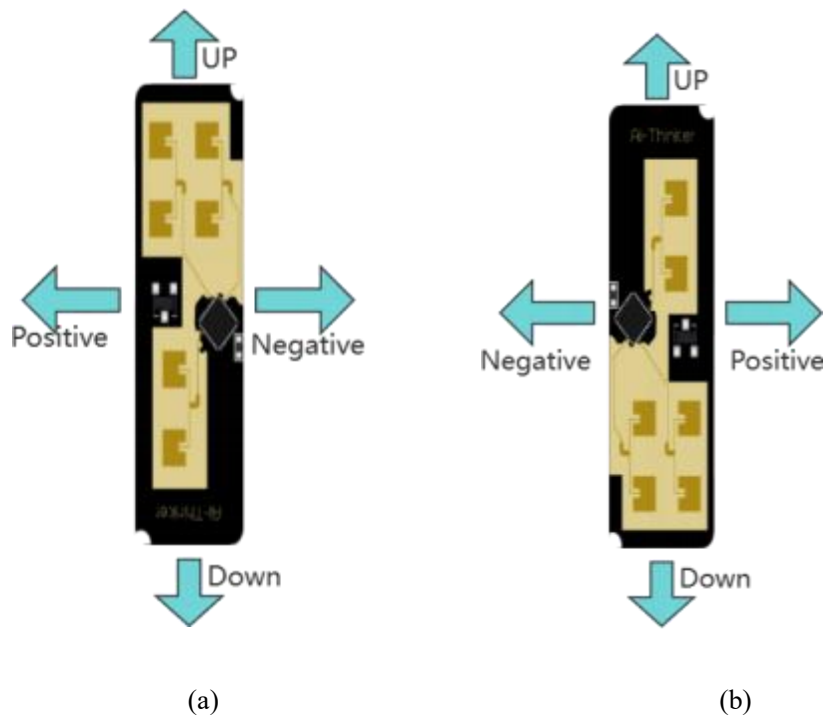

Figure 7-2 Identification of radar wall mounting angle
When installing the wall, the recommended radar installation posture is shown in Figure 7-2(a) and (B). The normal direction of the radar antenna plane is 0° .